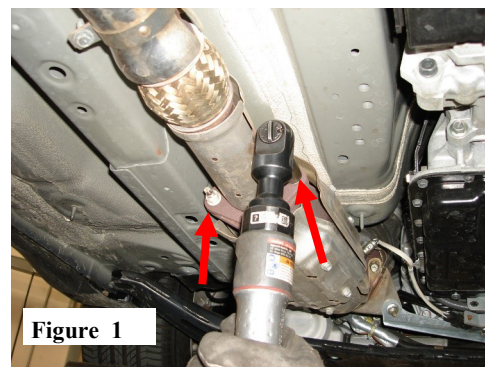

Figure 1
1. Remove (2) 14mm nuts on left front flange behind the catalytic converter. Repeat for the right side. Save hardware for installation. (See Fig. 1)